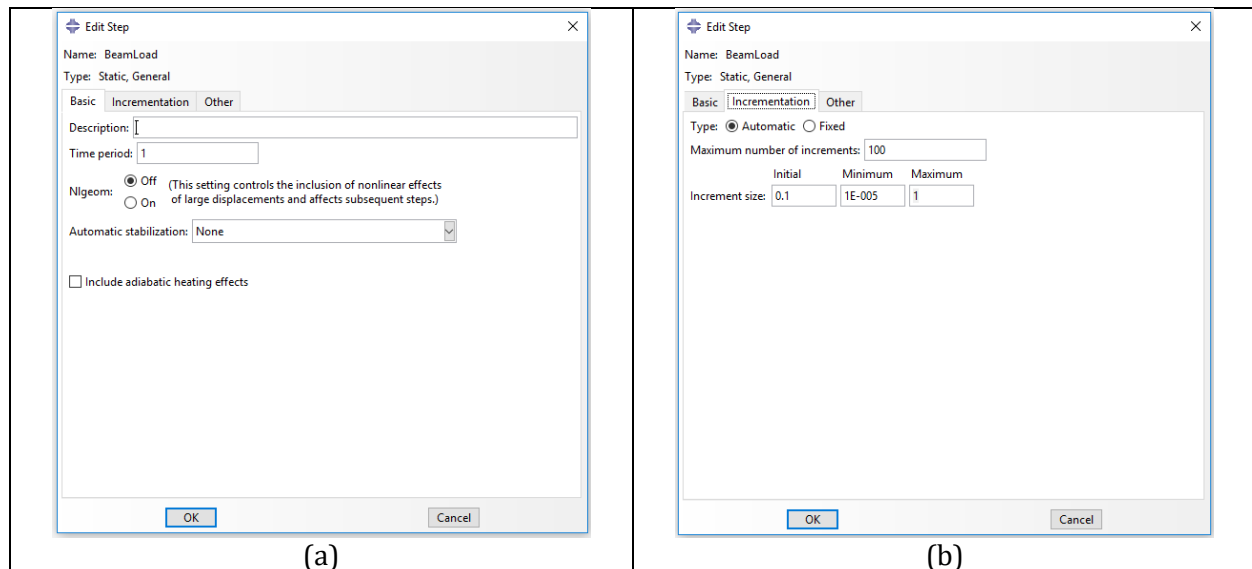

Figure 2-15 – The Edit Step dialog box. (a) Basic tab and (b) increment tab.
The **Edit Step** dialog box appears. See Figure 2-15.
- a. In the **Time period** field of the **Basic** tab page, enter **1**. Let **Nlgeom** (Non-linear geometry) be turned off. See Figure 2-15(a).
- b. Click the **Incrementation** tab, and delete the value of **1** that appears in the **Initial** text field. Type a value of **0.1** for the initial increment size. See Figure 2-15(b).